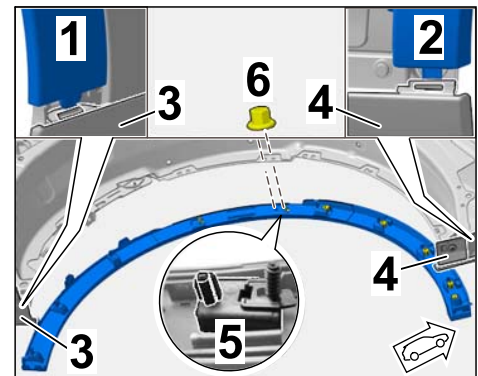

Figure 7
- 3.1 Guide tabs (at the ends of the wheel cover) into the rear apron and side skirts (⇒ *Figure 7*).
- 3.2 Position pin and very top T-bolt (at 12 o'clock position) in the side panel and screw A5 hexagon nut (1 x) onto the T-bolt (⇒ *Figure 7 -6-*).